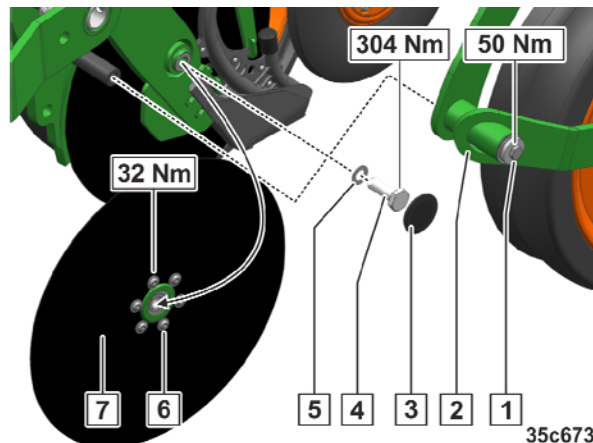

Fig. 311
1. Loosen the bolt (Fig. 311/1) and remove it.
2. Dismount the support roller bracket (Fig. 311/2) with support roller.
4. Remove the dust caps (Fig. 311/3).
5. Unscrew and remove the central bolts (Fig. 311/4).
6. Pay attention to the number of spacer discs (Fig. 311/5).
7. Dismount the coulter discs (Fig. 311/7).
8. Unscrew and remove the bolts on the bearing seat (Fig. 311/6).